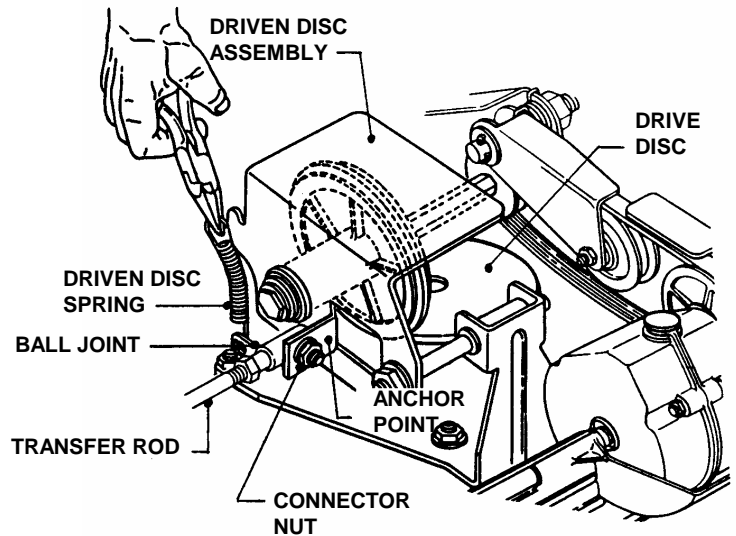

FIGURE 4.7
2. Remove driven disc spring from driven disc assembly. Remove transfer rod connector nut and remove ball joint/transfer rod from driven disc assembly anchor point. See Figure 4.7.